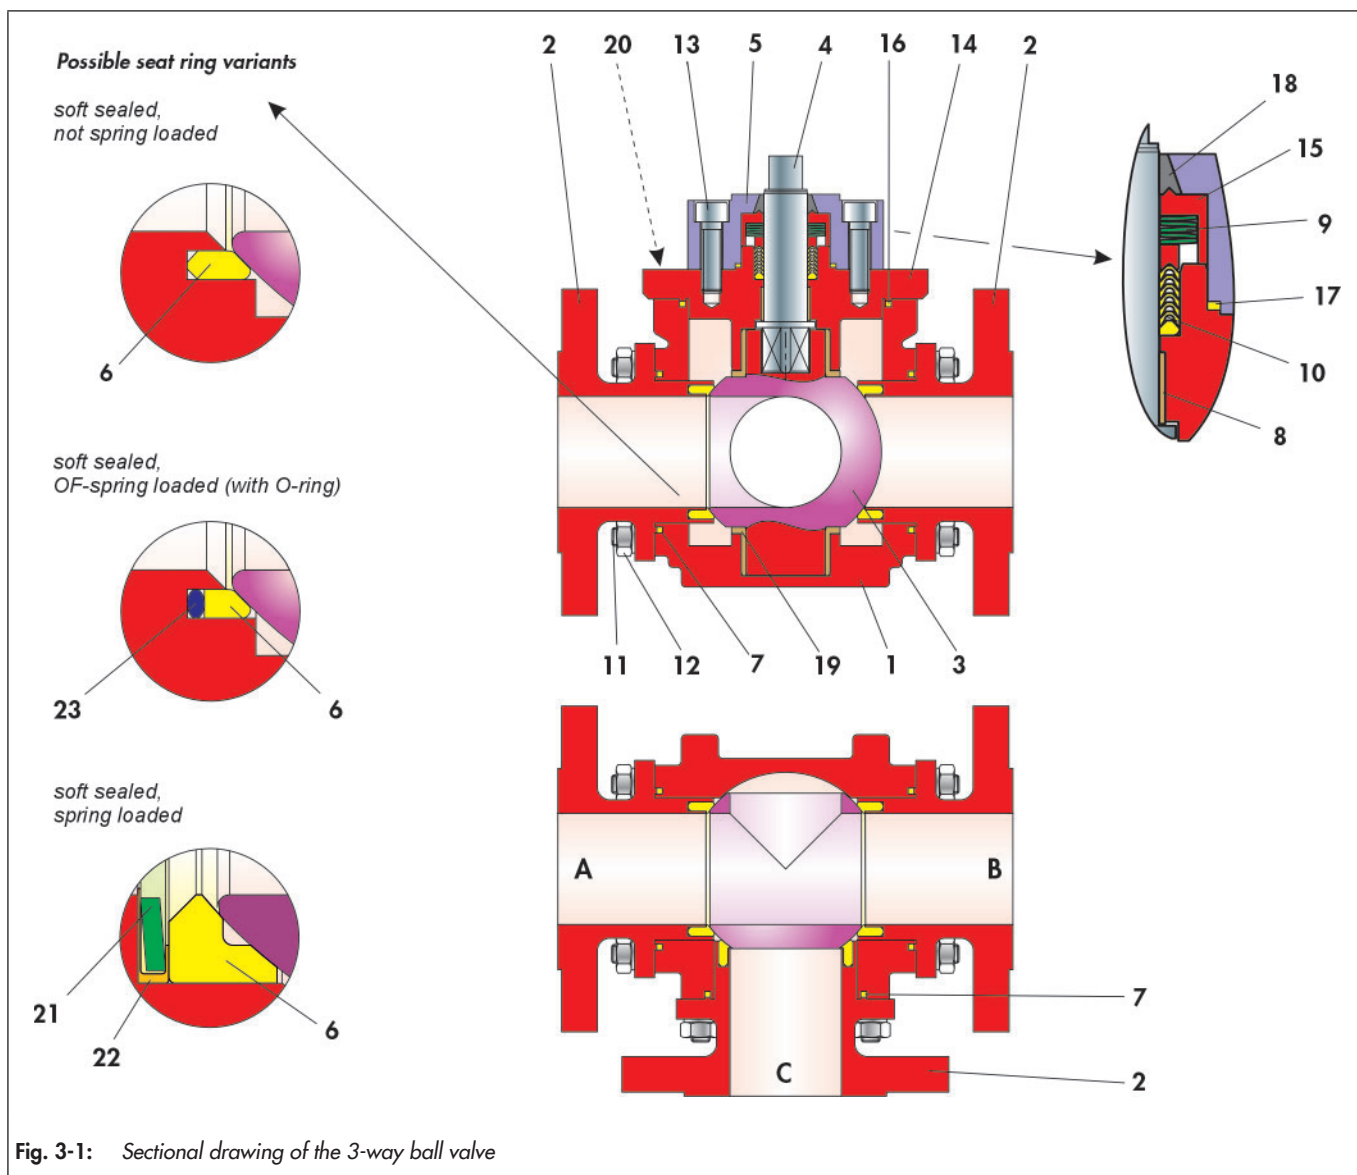

Fig. 3-1: Sectional drawing of the 3-way ball valve
- Depending on the version, stud bolts (11) with nuts (12) or screws (11) can be used.
- ⇒ Press the lower bearing bush (19) into the main body (1). For the alignment of the bearing bush, see Fig. 3-1.
- ⇒ Lightly grease the trunnion of the ball (3).
- ⇒ Carefully insert the ball (3) into the main body. Insert the lower trunnion of the ball into the bearing bush (19) in the main body.
- ⇒ Do not damage the sealing surface of the control shaft (4).
- ⇒ Make sure that the bearing bush (8) and the control shaft (4) do not tilt when positioning in the packing bush (14).
- ⇒ Slide the V-ring packing (10) over the mounted control shaft (4) with a slight rotating movement and insert it into the packing location of the packing bush (14). For the arrangement of the V-rings, see Fig. 3-1.
- ⇒ Place the disk spring set (9) over the control shaft (4) up to the V-ring packing (10). For the arrangement of the disk springs, see Fig. 3-1.
- ⇒ Place the bush (15) over the control shaft (4) up to the disk springs (9).
- ⇒ Press the ring (18) into the stuffing box flange (5).
- ⇒ Insert the O-ring (17) into the stuffing box flange (5).